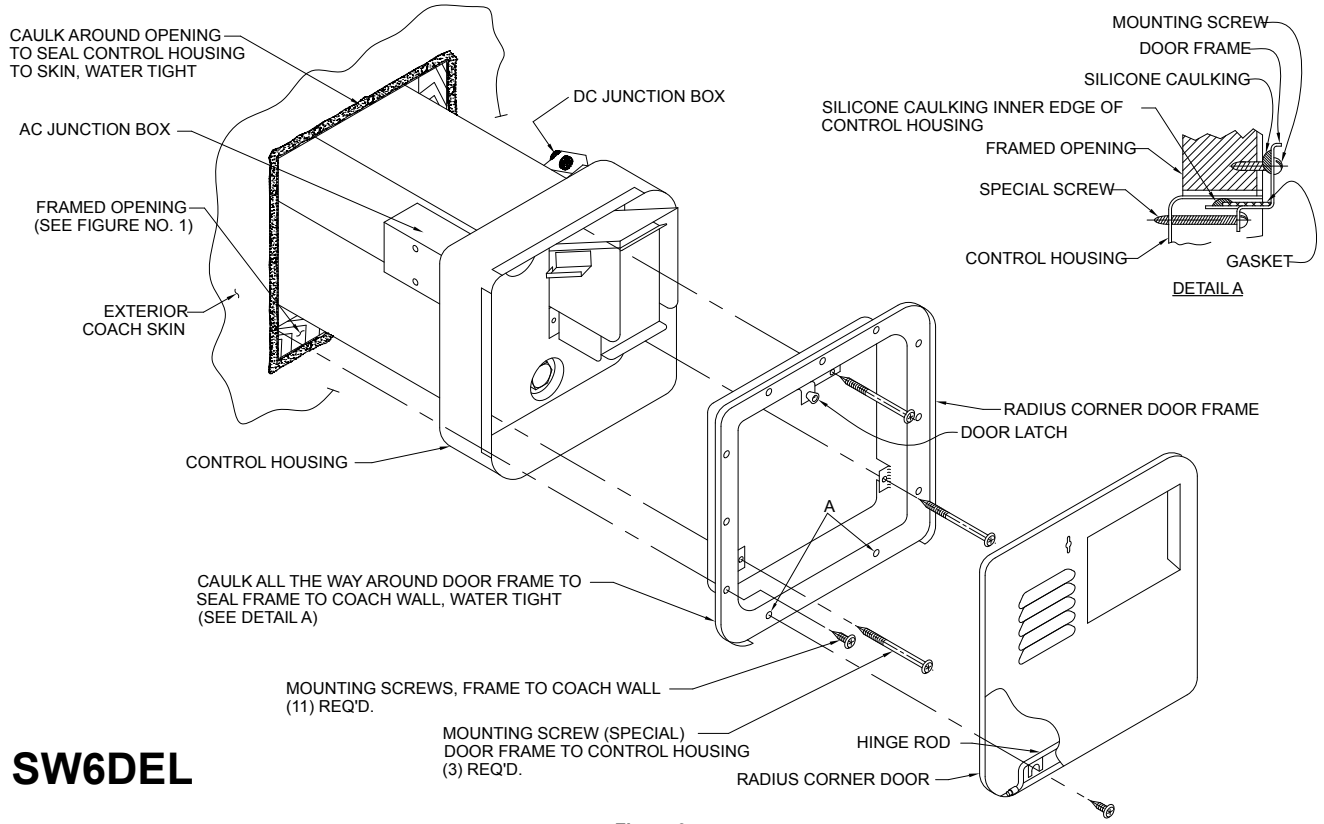

Figure 3
(See Figure 3 SW6DEL)
- F. Fit the door frame into control housing (over the caulking already applied) and pull frame tight to control housing using the three (3) No. 8-15 x 3 1/2" screws provided.
- G. Push water heater into framed opening until back side of door frame (now attached to control housing) is against the side of the coach and firmly attach with screws around the perimeter of the frame. NOTE: The two (2) holes in bottom of frame identified as "A" in Figure 3 are also used to mount door hinge to the frame.